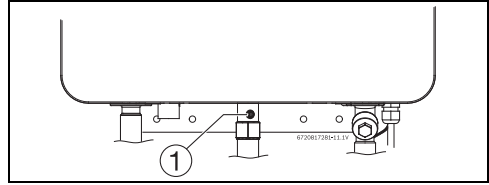

Fig. 20 Gas pressure test port
- ▶ Locate the inlet gas pressure test port (see Fig. 20).
- ▶ Loosen the screw inside test port fitting (do not remove) and connect the manometer tube to the test port (see fig. 20).